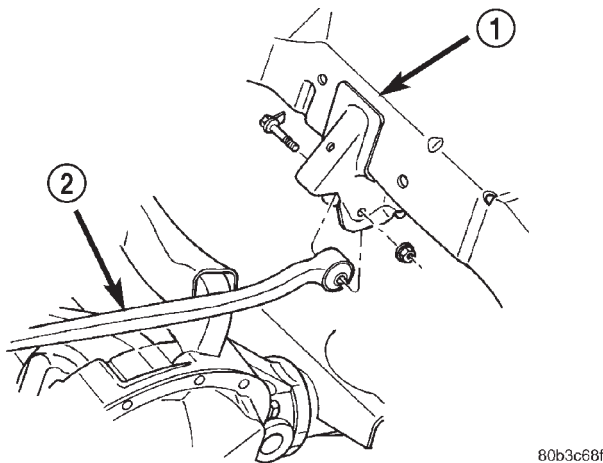

Fig. 12 Track Bar Frame Rail Bracket
(2) Remove the nut and bolt from the frame rail bracket (Fig. 12).